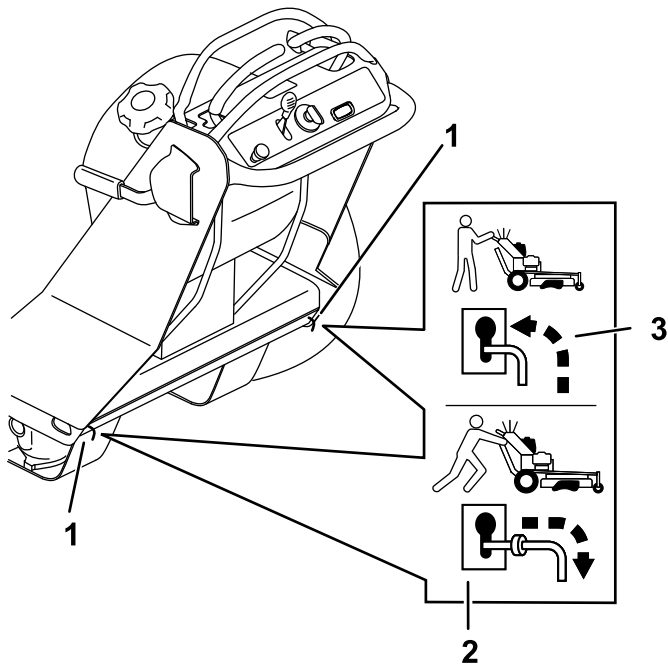

Figure 21
4. Move the bypass levers rearward through the key hole and down to lock them in place (Figure 21).
Move the bypass levers forward through the keyhole and down to lock them in place as shown in Figure 21.